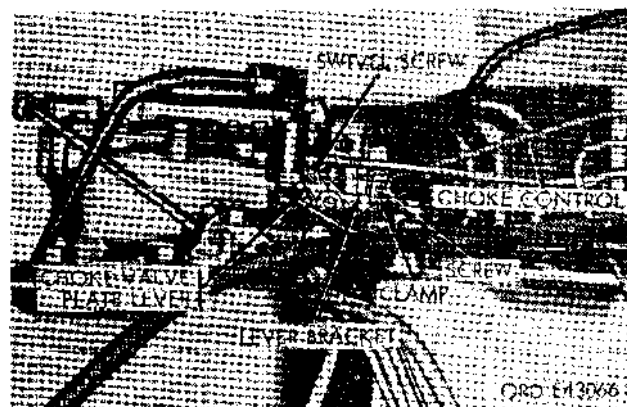

Figure 2-66. Choke linkage.
(9) Loosen the choke lever swivel screw (fig. 2-66) securing the choke control wire to the choke valve plate lever at the left side of the carburetor. Loosen the choke lever bracket clamp screw, and remove the choke control from the lever and bracket.
(1) Install a new carburetor carburetor-to-manifold gasket on the carburetor mounting studs.
(2) Position the carburetor on the mounting studs on the top of the intake manifold, (20) install six safety nuts (19) on the studs, and tighten, the nuts to 25-30 ft.-lb. torque.
(3) Insert the choke control wire in the hole in the end of the choke lever swivel; but do not tighten the swivel screw. Position the choke control (fig. 2-66) under the choke lever bracket clamp and tighten the clamp screw.
(1) Loosen the swivel screw (fig. 2-66) securing the choke control wire to the choke lever.
(2) Push the choke control in against the instrument panel as far as it will go.
(3) Move the upper end of the choke valve plate lever (fig. 2-66) forward as far as it will go and tighten the swivel screw.
(1) Loosen the swivel screw (fig. 2-66) securing the choke control wire to the choke valve plate lever.
(2) Loosen the choke lever bracket clamp screw (fig. 2-66), and remove the choke control from the choke valve plate lever and lever bracket.
(3) Remove the nut and lockwasher from the choke control at the back side of the instrument panel, and pull the choke control assembly from the cab cowl and the front of the instrument panel.